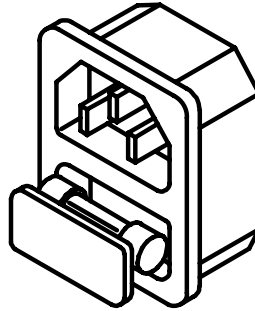

Figure 2-2 AC line receptacle socket
6. The line fuse is located below the AC line receptacle see Fig 2-2. With the power cord removed, use a small screwdriver to extract the fuse holder from under the AC socket. Replace the fuse with the appropriate type as indicated in table 1-1. These fuses are normal-blow fuses.